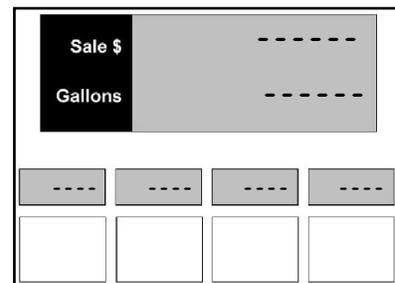

Figure D.1a – Dash Display Segment
- The main display and the individual PPV displays begin to display all dashes as shown in *Figure D.1a*.